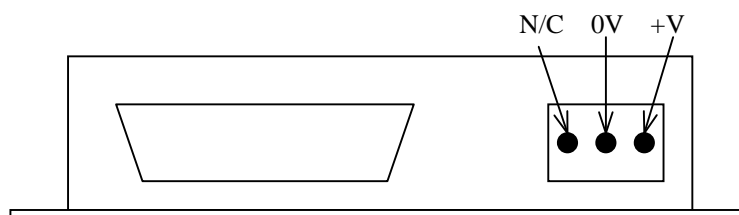

FIGURE 6: OSD156C POWER SOCKET CONNECTION DIAGRAM
- ▲ OSD156C external DC power in the range $+8V_{DC}$ to $+13V_{DC}$ may be connected via the 3-Term Block located on the side. The top pin is the positive connection and the middle connection is Ground (see Figure 6). The external power source can be a plug pack type unit such as the OSD156PP.
Figure 6 below is a simple block diagram of the OSD156.